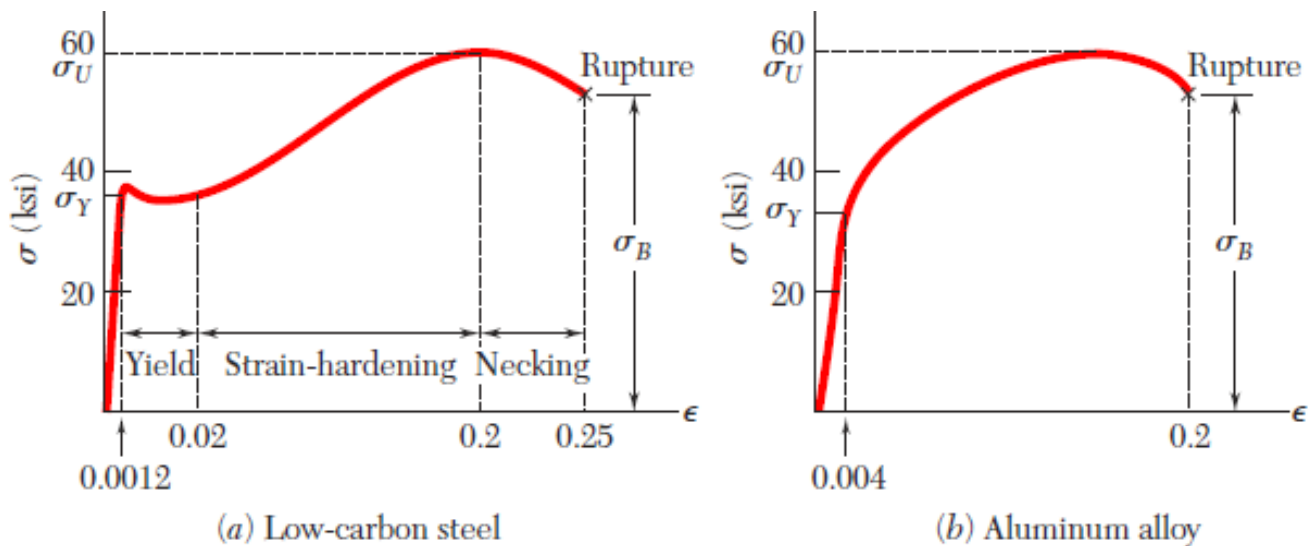

**Figure 6.1**
- ▶ As already mentioned, wherever a single force (or a system of forces) acts on a body, it undergoes some deformation (Figure 6.1). This deformation per unit length is known as strain. Mathematically strain may be define as deformation per unit length, i.e., strain is: